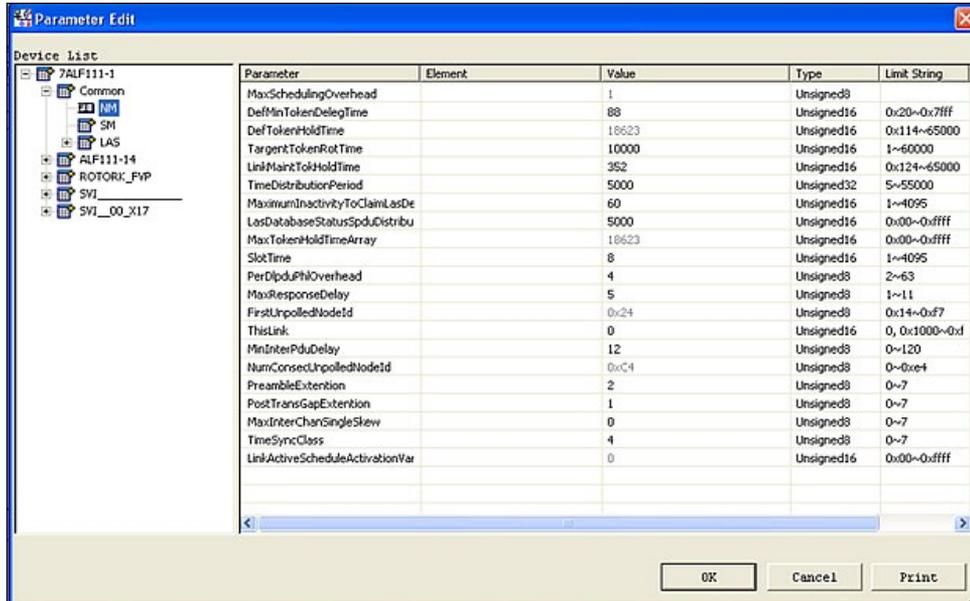

Figure 74 - Network Management Parameter List
- Click **OK** to accept the settings and close the window (Figure 74).